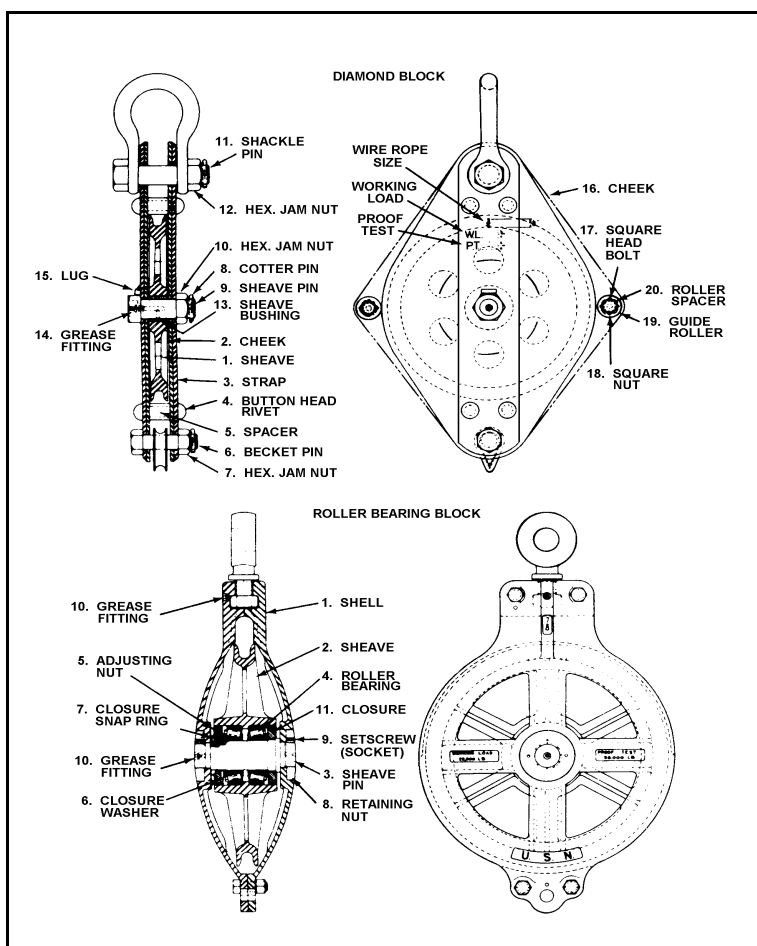

Figure 20-2. Common Cargo Blocks
20-4. The three types of cargo blocks most frequently seen on ships are the diamond, oval, and roller bearing. Figure 20-2 shows the diamond block and roller bearing block. Each of these blocks are described below.
- Diamond block.** A single-sheave diamond block is shown in Figure 20-2, but there may be many more, depending on the use of the block. Sheaves of this type of block are usually bushed with a high-grade bronze alloy, and the pins are equipped with grease fittings. Sheave bushings should be lubricated with hard graphite grease (such as Federal Specification VV-G-671, grade 0).